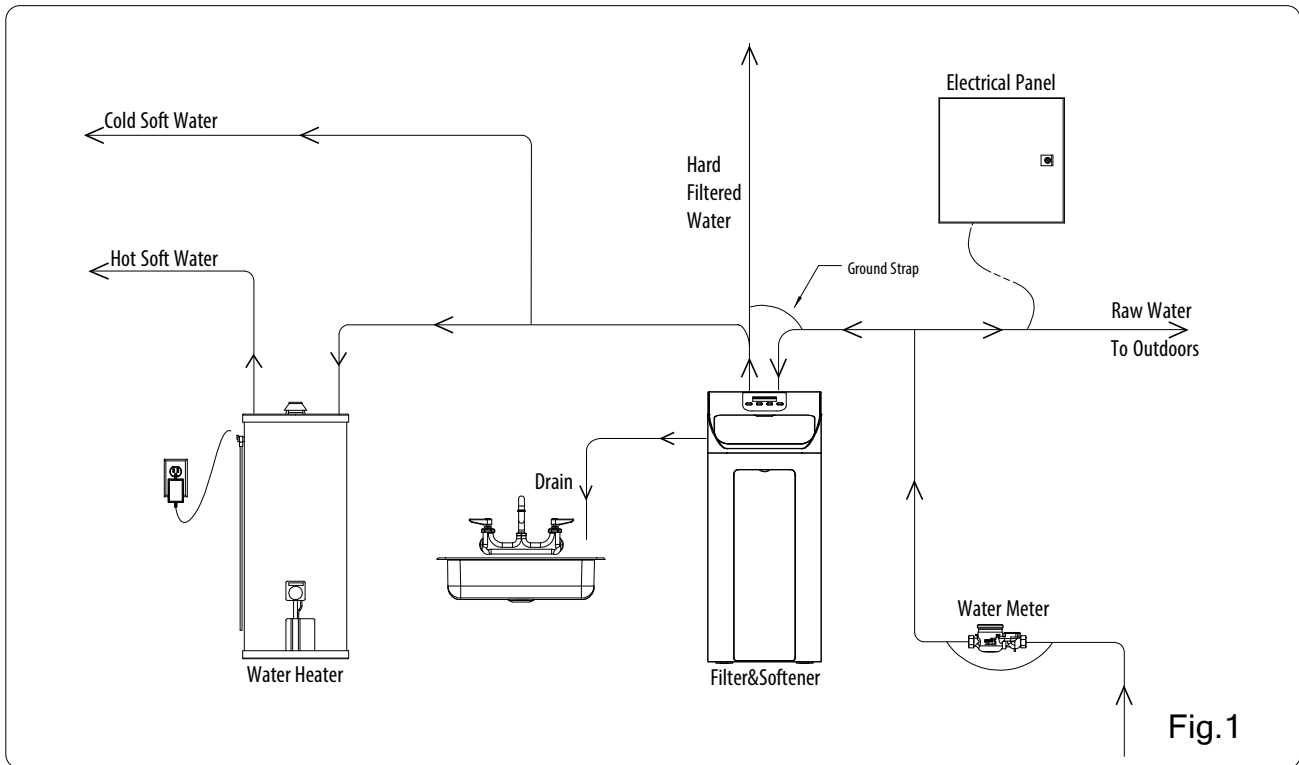

Fig.1
3. Locate in correct relationship to other water conditioning equipment (See Fig. 1).
7. Determine if additional plumbing is required if your water source is a community water supply, a public water supply or you wish to bypass water used for a geothermal heat pump, lawn sprinkling, out-buildings or other high demand applications, refer to Fig. 1).